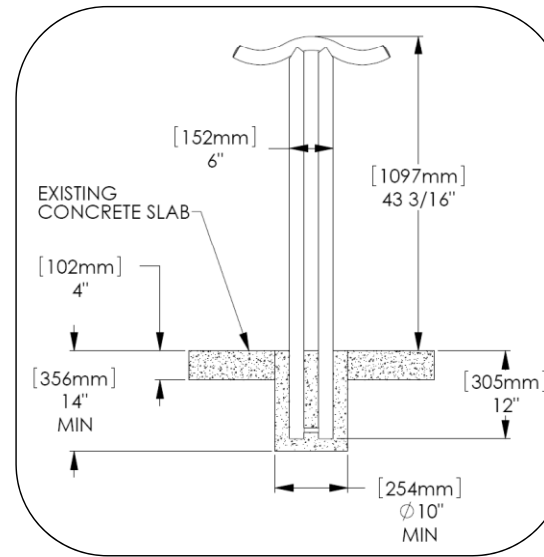

Fig. 1. - Embedded
1. Prepare hole as required for soil and frost conditions, minimum recommendations noted in Fig. 1.